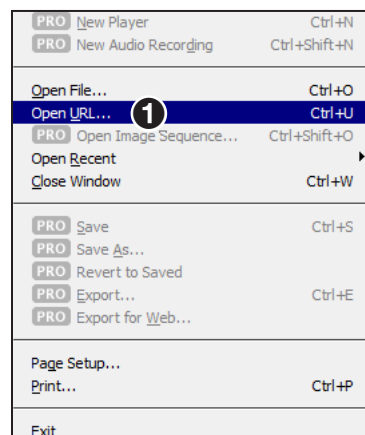

Figure 75. QuickTime Player Menu — Open URL
5. The QuickTime media player opens. From the **File** menu, select **Open URL** (see figure 75, ①).